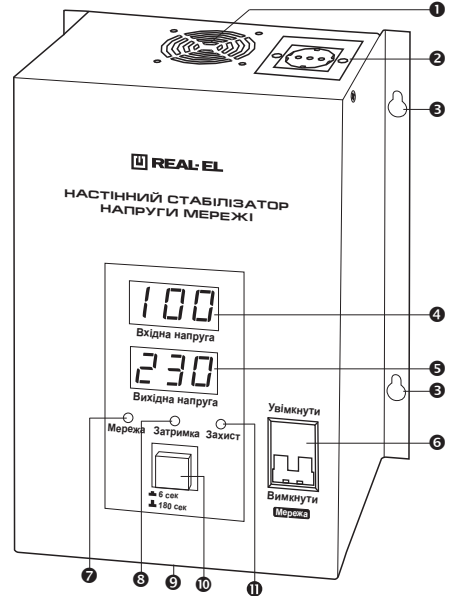

Fig. 1. WM-5 front panel
4. DESCRIPTION (see Fig. 1 – 7)
- ❶ Fan
- ❷ Outlet socket 16 A (max)
- ❸ Ø 6 mm wall mounting holes
- ❹ Input voltage digital indicator: input voltage level is displayed by default; “H” is displayed when disconnected due to high voltage; “L” is displayed when disconnected due to low voltage; “t” is displayed when disconnected due to overheating
- ❺ Output voltage digital indicator: output voltage level is displayed; it operates as a countdown timer during Pause mode before the AVR turning on
- ❻ AVR automatic circuit breaker
- ❼ Мережа: indicator is active when voltage is in the inlet
- ❽ Затримка: indicator is active when AVR operates within 6 or 180 sec time delay
- ❾ Terminal box
- ❿ On-delay time selection button (6 or 180 sec)